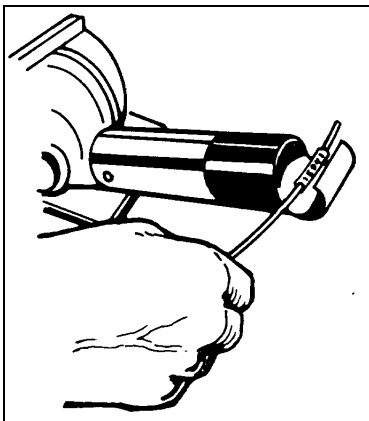

FIGURE 11-34. Shrinking marker on wire.
**d. Shrink marker sleeve,** using heat gun with shrink tubing attachment. (See figure 11-34.)